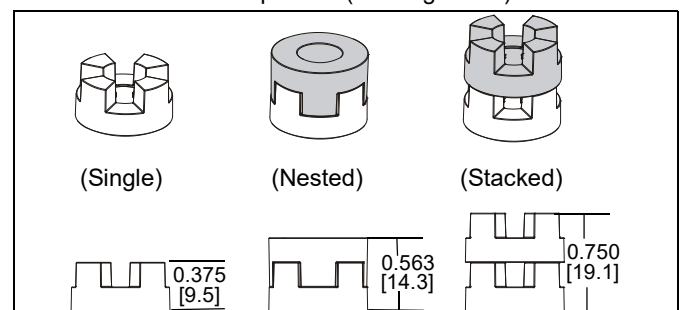

Figure 15
**NOTE:** The nesting spacers (TMA) may be used separately, or put two together in different configurations to create different size spacers. (See Figure 15)